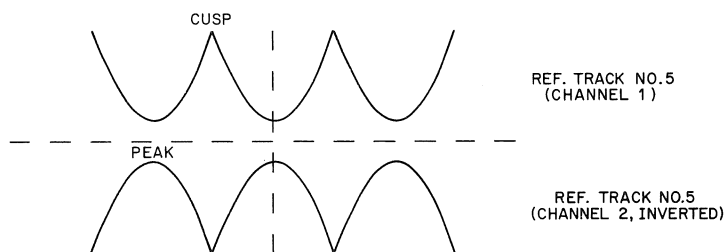

Figure 5-15 Sync Pattern for Reference Track
3. Invert channel 2 and sync on B32L1. Waveforms should appear as shown in Figure 5-15.